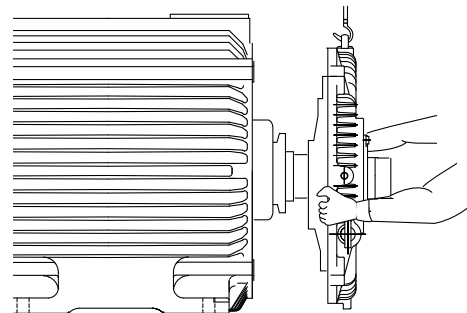

Figure 15.1 Removing the bearing bracket
- (1) Support the non-drive end with a jack or support frame, and slightly raise the bearing bracket.
- (2) Remove the bolts and separate the bearing bracket from the frame.
- (3) Carefully set the rotor on the inner diameter of the stator.
- (4) Suspend and remove the bearing bracket as shown in Figure 15.1.